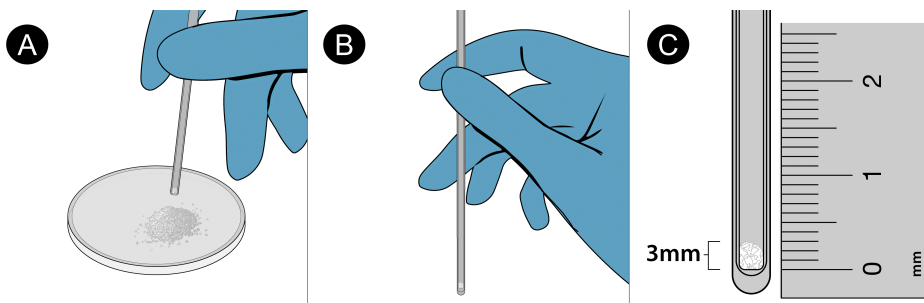

Figure 1. Collect a sample in a capillary tube
2. Transfer a small pile of the sample to the center of a watch glass, then tap the open end of the capillary tube into the sample as shown in Figure 1Ⓐ. Load it 2-3 mm deep.
3. Invert the tube. Tap the bulbous tube end on the lab bench several times to compact the sample into the closed end (Figure 1Ⓑ).
4. Collect and compact additional sample if necessary to load the tube with a sample height of 2-3 mm (Figure 1Ⓒ). Do not exceed 3 mm.